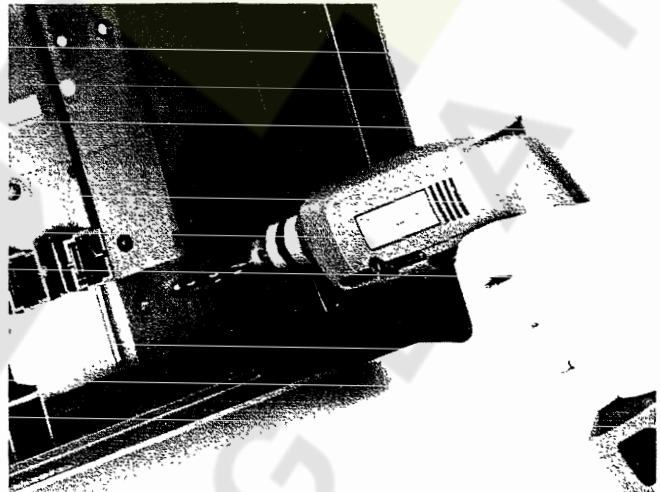

Figure 5. The inside of the breaker cover, showing the mounting holes being drilled.
3. Drill four  $1\frac{5}{64}$ -inch (0.234 inch) holes through the cover, as shown in Figure 5.